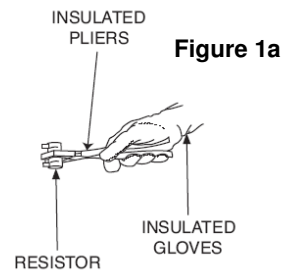

Figure 1a
5. Use electrically insulate gloves and insulated pliers. **See Figure 1a**. Hold the body of the resistor and connect the resistor leads across the resistor **R86**. Hold the resistor in place for 10 seconds. **DO NOT TOUCH CAPACITOR TERMINALS WITH YOUR BARE HANDS.**